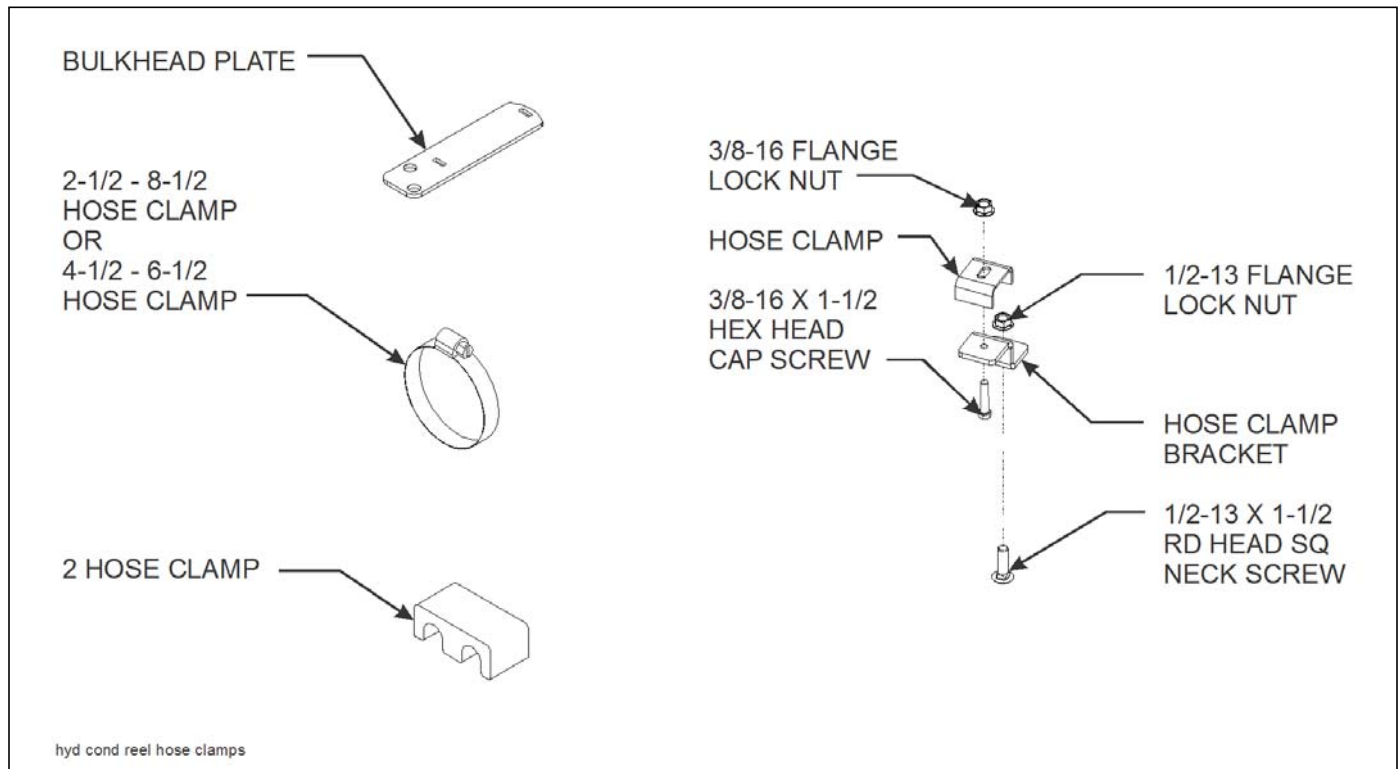

Figure 3-31: Finishing Hydraulic Conditioner Reel Hose Clamp Installation (Option)
6. Install hose clamps onto frame (See **Figures 3-31 and 3-34.**)